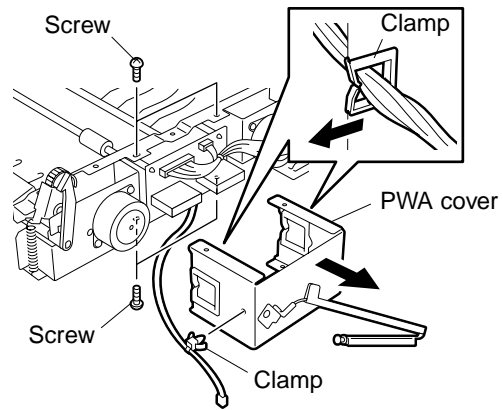

Fig. 6-13
6. Detach PWB cover. (See Fig. 6-13)
6. Detach PWA cover. (See Fig. 6-13)
- Detach PWB cover. (See Fig. 6-13)